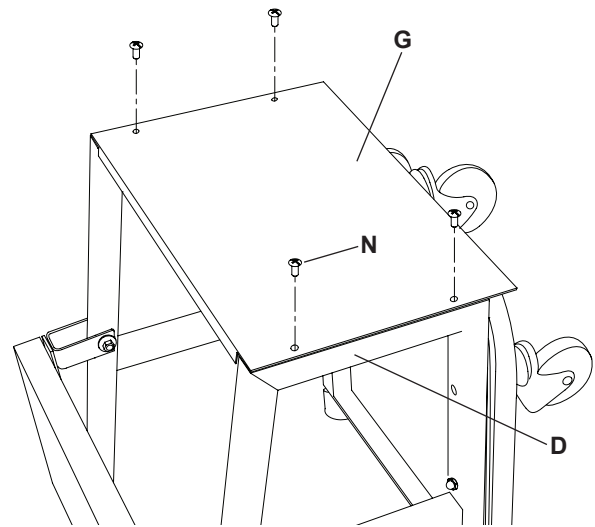

Figure 4 - Attaching Step to Side Frames
4. Fasten Creeper Step (G) to Side Frames (D) using four M6 x 16 Phillips Head Screws (N). Ensure that the Creeper Step (G) sit securely between the Side Frames (D) before tightening the screws (Fig. 4).